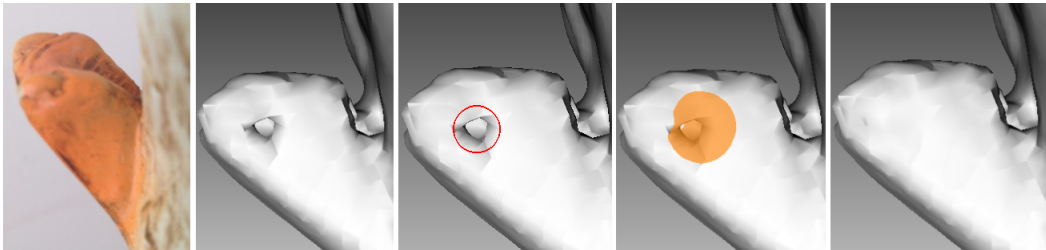

Figure 8.34: *Defeature brush* in action.
5. While still holding down `Ctrl`, adjust the spot size (see Figure 8.34, 4) or circle diameter (see Figure 8.34, 3) using `Scroll wheel` or the `[` and `]` keys. Their size should match the size of feature you want to remove.